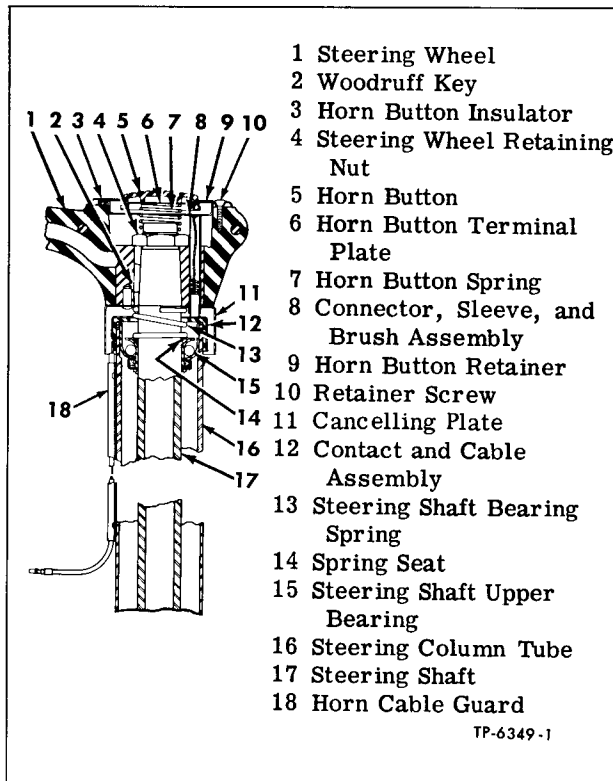

Figure 3—Steering Wheel and Horn Contact Installation
Upper end of steering shaft is supported by a ball bearing assembly which is pressed into steering column tube. Horn cable guard is attached to steering column tube with three screws. Steering wheel is keyed to upper end of steering shaft and secured with a nut. Horn contact, spring, button, and components are mounted on upper end of shaft and in center of steering wheel as shown in figure 3.
REMOVAL (Figs. 3 and 4)
Key numbers in text refer to figure 3.
1. Remove steering wheel as previously described. Remove Woodruff key (48) from slot in steering shaft; then remove bearing spring (46) from shaft and steering column tube.
3. Remove four bolts and lock washers attaching steering column tube and bevel gear housing upper cover assembly (1) to bevel gear housing (15). Lift tube and cover assembly from bevel gear housing. Save shims (6, 7, and 8) used between cover and housing for reuse at assembly.
4. Remove O-ring seal (2) from groove in upper cover (1). Discard seal.
5. While holding steering shaft (38) in a vise with soft jaws, remove pinion gear retaining nut (30) from end of steering shaft (38).
6. Using a brass drift and hammer, tap steering shaft (38) out of pinion gear (31). Remove gear, lower bearing (33), and two bearing races (32 and 34).
7. Remove steering shaft (38) from steering column tube (1).
NOTE: It may be necessary to remove steering shaft upper bearing (15, fig. 3) and spring seat (45) before shaft can be removed.